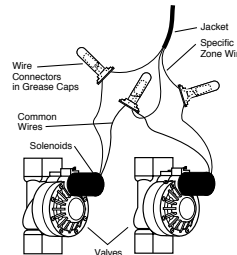

FIGURE 17: Connecting Timer Wires to Valves
- Each valve has two wires. One wire is to be connected as the common. The common wires for all the valves can be connected together to one common wire going to the timer. The other valve wire is to be connected to the specific station wire that will control that valve [See Figure 17].